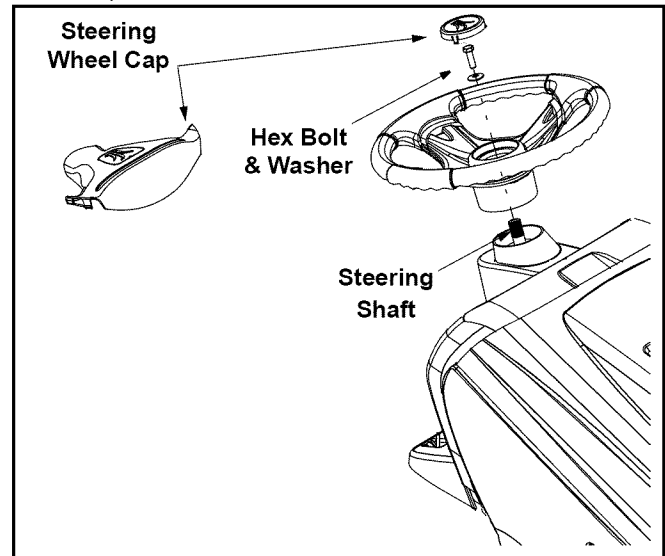

Figure 2
NOTE: There are two different styles of steering wheel cap. See Figure 2. **Styles vary by model.**
- Place the washer (with the cupped side down) over the steering shaft and secure with the hex bolt. See Figure 2.